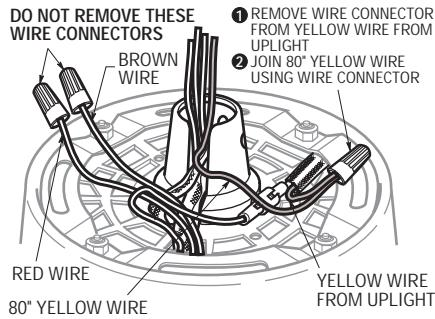

Figure 7
13. For Ceiling Fan Models F2100, F2200, CF2300, CF2500 and CF3900 Only. Locate and remove the connector from the yellow wire from the uplight (Figure 7). Separate, untwist and unkink the 80" yellow wire lead (supplied with the fan) and cut off the connector from the end of the wire. Strip 1/2-inch of insulation from the end of this wire. Then join the 80" yellow wire to the yellow wire from the uplight using a wire connector (supplied).